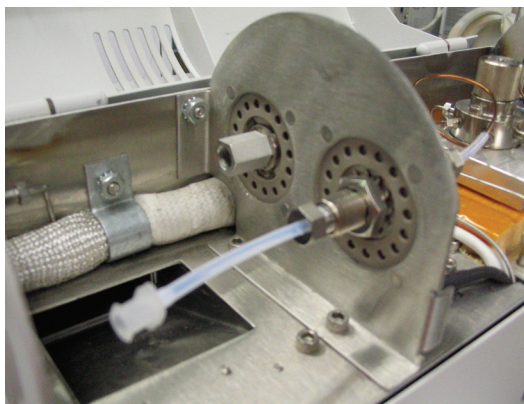

Figure 6.34. Connecting the Rinsing Tool
5. Using the 3/8" wrench, remove the analytical trap and connect the rinsing tool to the outlet (trap) side of the water management fitting (see Figure 6.34).